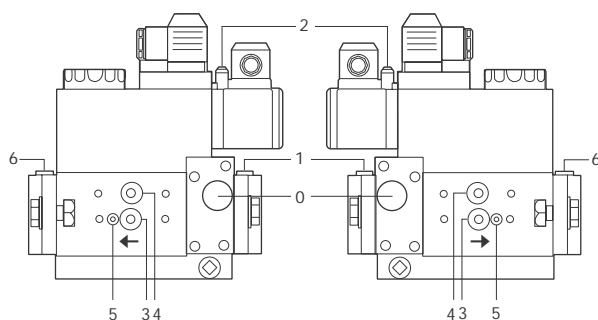
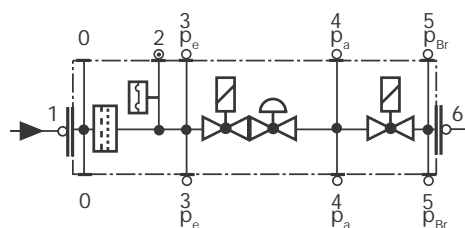

Fig. 25
Fig. 26
- Clean and examining the gas filter cartridge, if necessary replace it (Fig. 25 on).
- Change the filter if the pressure difference between pressure connection 1 and 3 (Fig. 25-Fig. 26) is $Dp > 10$ mbar.
- Change the filter if the pressure difference between pressure connection 1 and 3 (Fig. 25-Fig. 26) is twice as high compared to the last check.